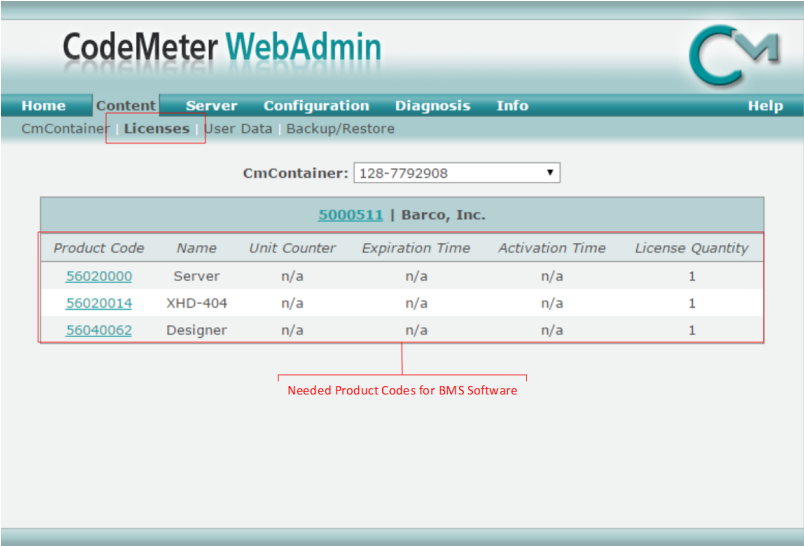

Figure 2.3. WebAdmin License page for XHD-series licenses
- 4. Navigate to the License pane under Content. (See Figure 2.3, “WebAdmin License page for XHD-series licenses”.)